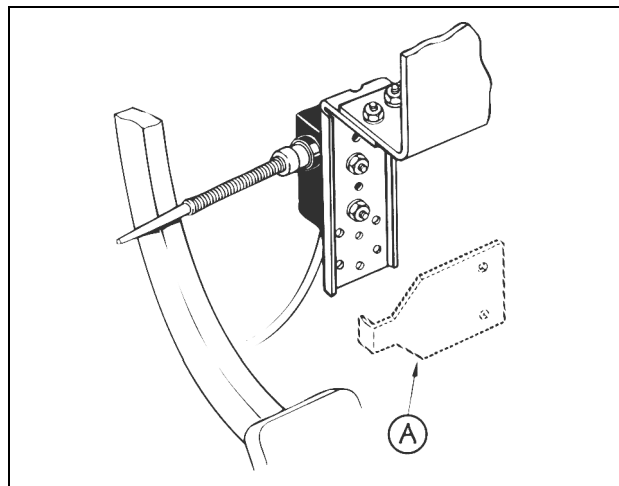

FIG. 24
- Install the switch with the switch actuator arm in contact with the clutch pedal arm or other clutch member (see Fig. 24). The optional overtravel bracket (A) is not included in the clutch switch group.